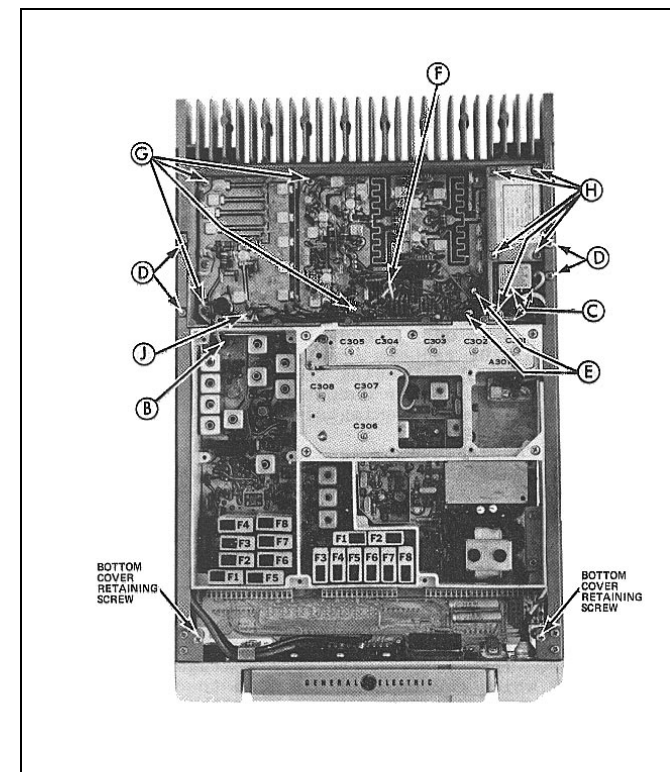

Figure 5 - Disassembly Procedure Top View
2. Remove the top cover, then loosen the two bottom cover remaining screws and remove the bottom cover (see Figure 5).
3. To gain access to the bottom of the exciter board, remove the six screws (A) holding the exciter board and its bottom cover to the module mounting frame, and remove the bottom cover.